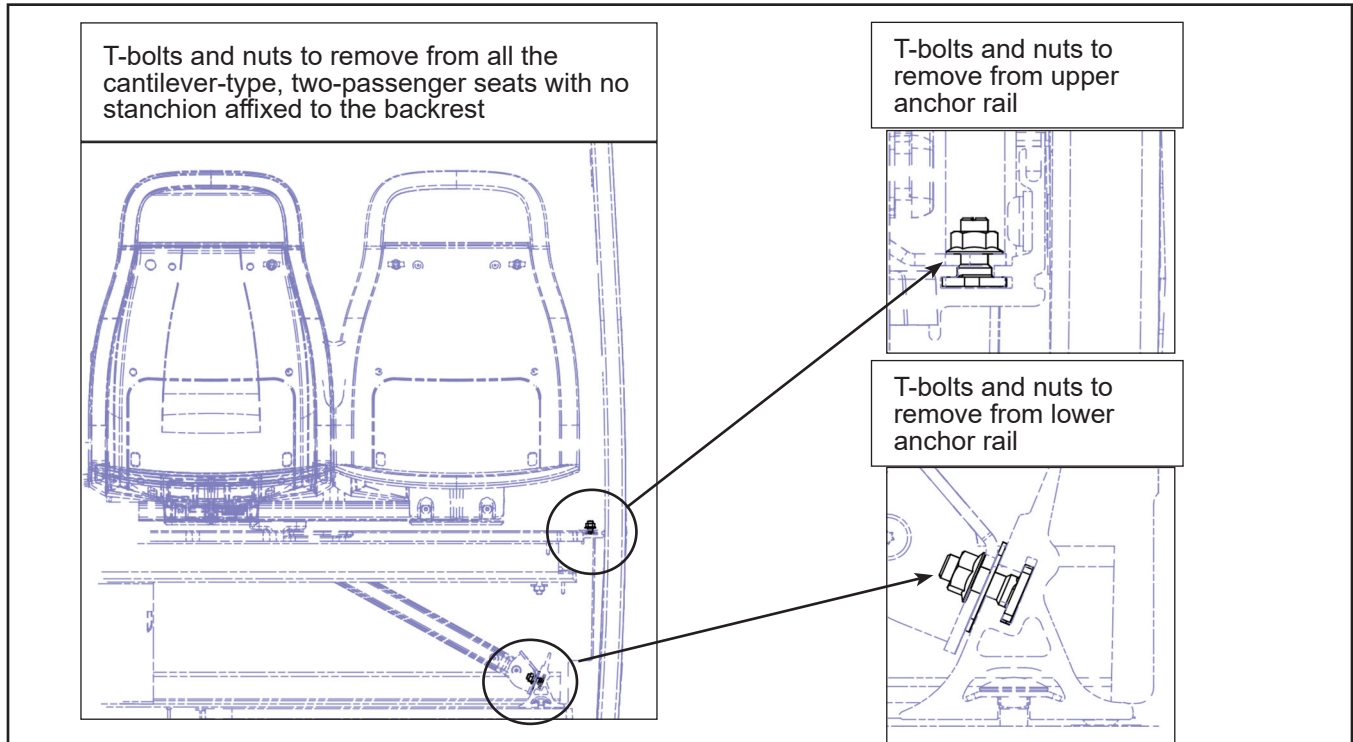

Figure 3 - T-bolts and Nuts to remove
- c. Remove the cantilever-type two passenger seats with no stanchion affixed to the backrest from the seat anchor rail. Remove all T-bolts and nuts from the upper and lower anchor rails. Dispose of all the removed T-bolts and nuts. See Figure 3.